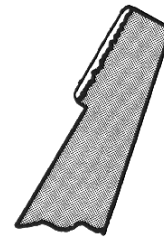
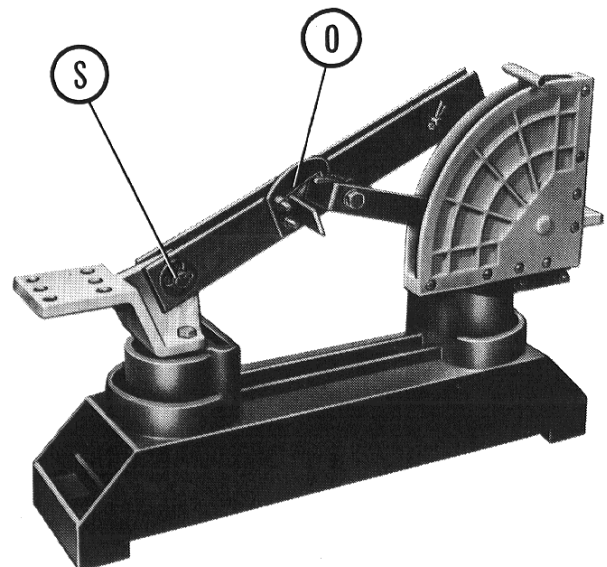
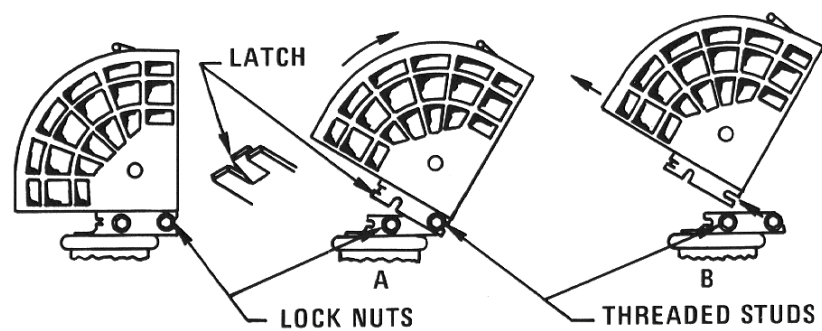
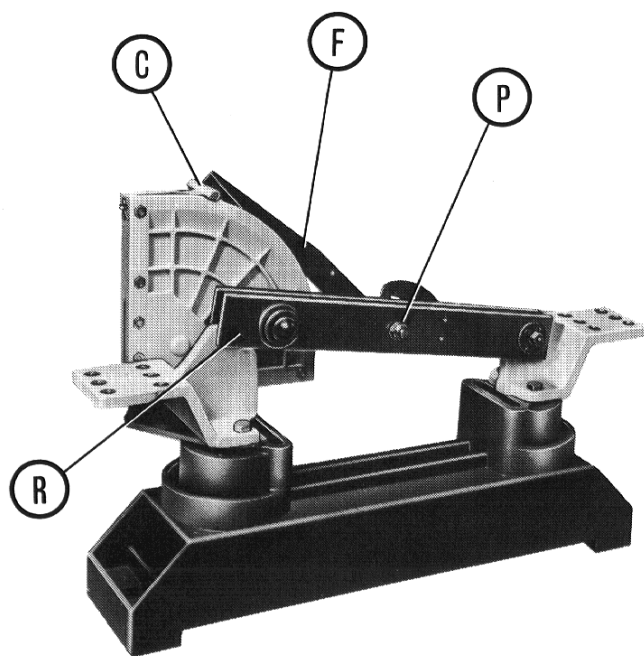

Fig. 27 End of auxiliary quick-break blade showing erosion at arcing tip
Fig. 28
Fig. 29 Progressive steps in arc-chute removal
Fig. 30
This inspection can best be performed with the switch in the open position and noting the condition of the quick-break blade (F), Fig. 30.
If the quick-break blade shows bad erosion, Fig. 27, the arc chute and quick-break blade should be replaced. To replace arc chute, loosen locknuts holding arc chute to support, (Fig. 29), pull arc chute away from switch base, rotating away from hinge and remove. Discard and replace with new unit. To replace quick-break blade, remove bolt (P) (Fig. 30).
Operate switch to check on opening. To do this, disconnect the plastic drive link from the blade on 5 kV and at back drive shaft on 15 kV. On opening, the quick-break blade should not release until its hinge end makes contact with latch hook (O) (Fig. 28). On closing, the quick-break blade should not leave Flipper (C) (Fig. 30) until the jaw and blade have made contact at (R).
Should it ever be necessary to adjust the hinge contact pressure, open switch, then tighten pressure adjusting nut (S), Fig. 28 one-half turn at a time. Move blade back and forth 90° to centerline of base to observe its contact with the hinge. The blade should be moderately snug against both sides of hinge at all times. Use thin shim to check for blade contact. No adjustment is required on jaw contact.